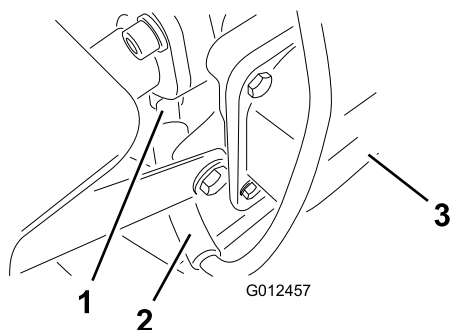

Figure 26
6. Disconnect the wire from the spark plug (Figure 26).
3. Connect the wire to the spark plug (Figure 26).
8. Remove the spark plug and the metal washer (Figure 26).